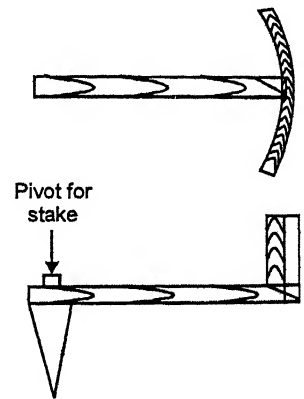

Fig. 8.10. Segmental pattern.
### 10. Segmental pattern : Refer to Fig. 8.10.
- In principle they work like a sweep, but the difference is that a sweep is given a continuous revolving motion to generate the desired shape whereas a *segmental pattern is a portion of the solid pattern itself and the mould is prepared in parts by it*. It is mounted on a central pivot (See Fig. 8.10) and after preparing the part mould in one position, the segment is moved to next position. The operation is repeated till the complete mould is ready.